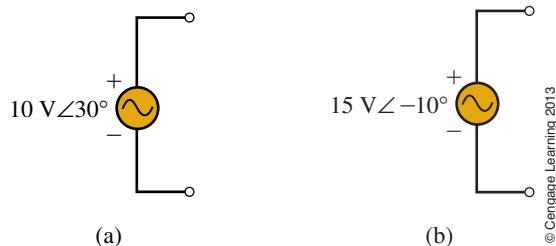

FIGURE 16–48
8. In the manner of Figure 16–10, represent each of the following as transformed sources—see Notes.
9. Determine the sinusoidal equivalent for each of the transformed sources of Figure 16–48—see Notes.